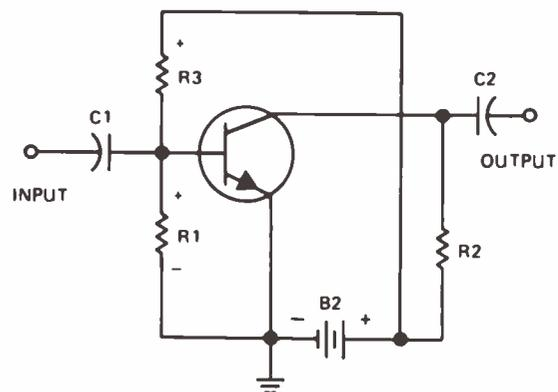

Figure 3. A common-emitter circuit with a single battery.
A disadvantage of the circuit shown in Fig.1(C) is that it requires two batteries. However, by adding resistor R3, as shown in Fig.3, we can eliminate B1. Current from the negative terminal of B2 flows through R1 and R3 to the positive terminal of B2. The current flowing through R1 develops a voltage across it having the polarity shown. This places a forward bias across the emitter-base junction of the transistor. At the same time, the voltage drop across R3 will be greater than the voltage drop across R2.
**Bias Stabilization.** There is still one problem with the circuit shown in Fig.3. The forward bias across the emitter-base junction of the transistor can change due to minority carriers crossing the collector-base junction. These carriers cause a current flow through R1 in the external circuit that will increase the voltage drop across it. This increases the number of majority carriers crossing the emitter-base junction, which in turn